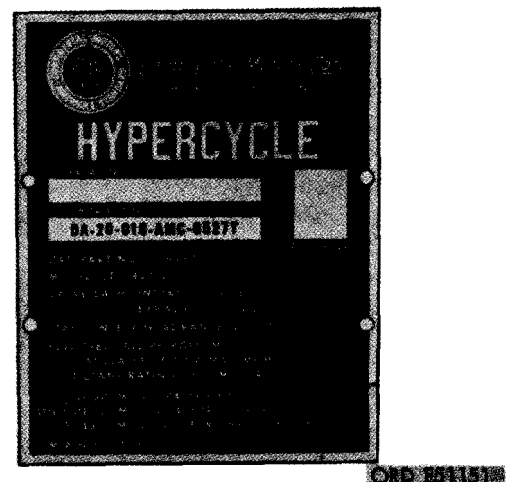

FIGURE 317. ENGINE NAME PLATE.
**b.** During rebuild of the engine and components, replacement parts will be needed. For engine model identification, and ordering replacement parts, note the engine name plate (fig. 317), located at the upper right side of the crankcase and cylinder block.